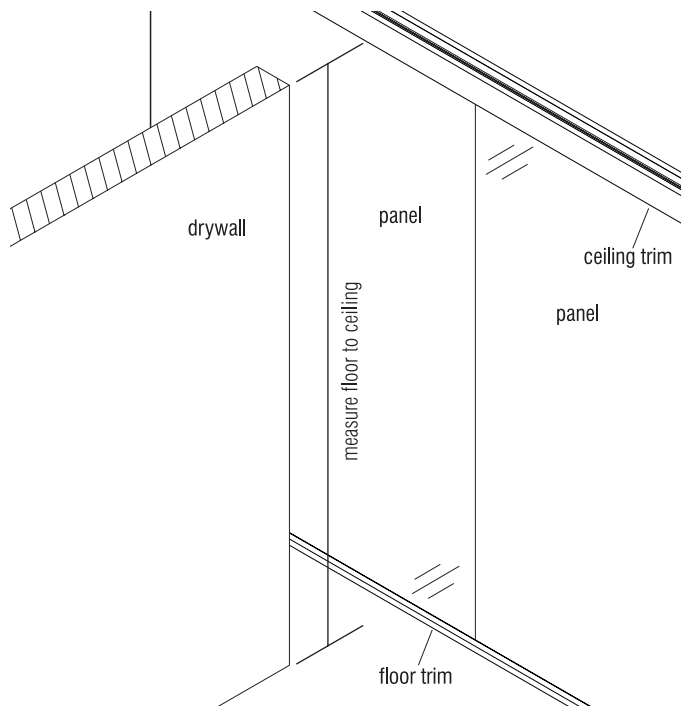

Figure 2
2. Per space-planning layout, panels must be installed, including the ceiling and floor trim. Please reference LightLine Assembly Instruction KI-62489 for install steps if this has not been completed (Figure 2).
3. Measure from the finished floor level, up to the underside of ceiling tile to determine the overall length of the inner (50.1818) and outer drywall bypass mullion (50.1819) (Figure 2).